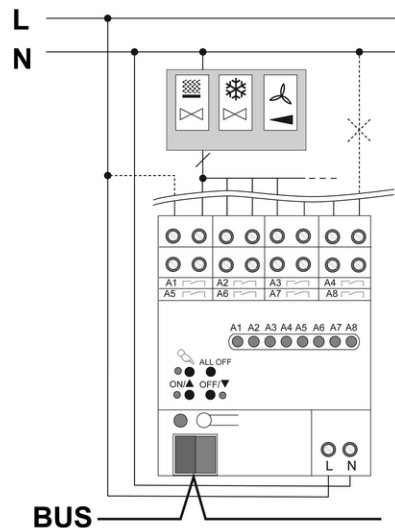

Figure 3: Connection example – load connection for 1 fan-coil output
- Connect bus cable with connecting terminal (Figure 3).
- i** A fan-coil output with up to six fan levels: see connection example (Figure 3). Information regarding assignment of the outputs in (table 2), (Figure 4) and (Figure 5).